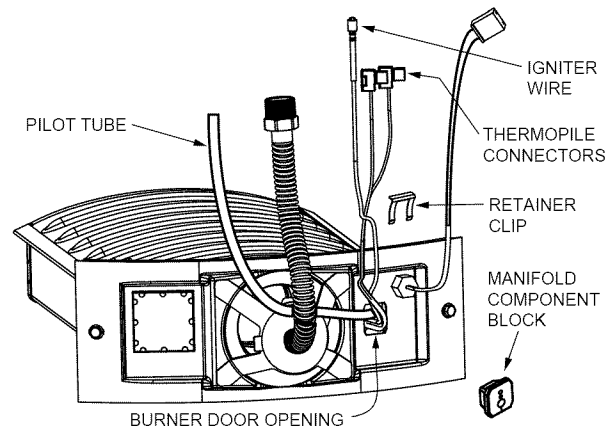

FIGURE 27.
2. Lift the retainer clip straight up from the back of the manifold component block (using a flat-blade screwdriver), then remove the manifold component block from the burner door assembly (Figure 27).
- Push the new pilot assembly connectors through the opening in the burner door (See Figure 27).
- Position the new thermopile wires through the top opening of the manifold component block (Figure 27). Be sure that the igniter wire is positioned through the middle opening of the manifold component block. Position the pilot tube through the bottom opening of the manifold component block.